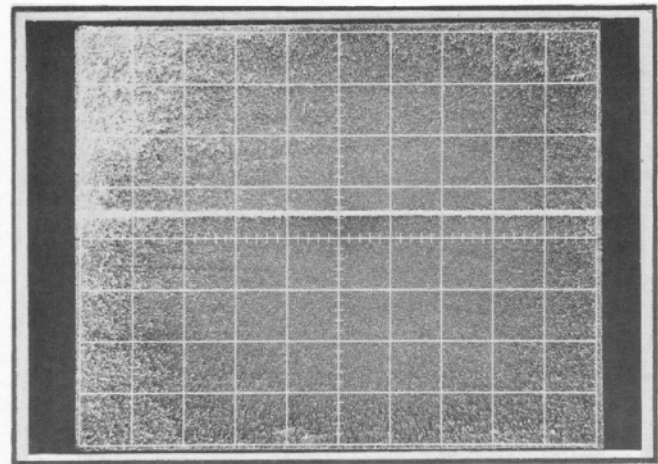

Fig. 5-27. Typical CRT display showing correct adjustment of R373, Enhance (amplitude).
e. Alternately store and erase single sweeps of the trace while adjusting R373 clockwise in small steps. Continue adjusting R373 until the enhance pulses cause portions of the screens to start fading positive and the trace just begins to spread into the background. (See Fig. 5-27.)